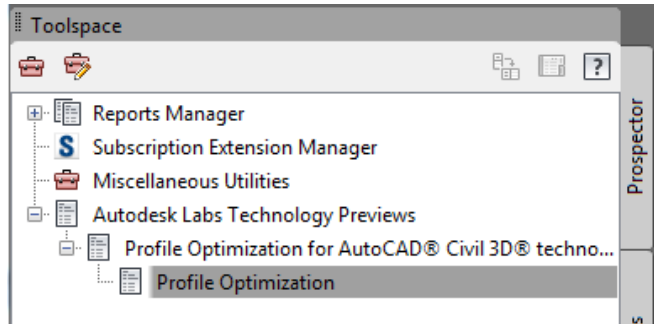

Figure 6: Toolbox launcher
1. Launch the optimization wizard from the AutoCAD Toolbox. Select *Autodesk Labs Technology Previews* → *Profile Optimization for AutoCAD* → *Profile Optimization* (see Figure 6).